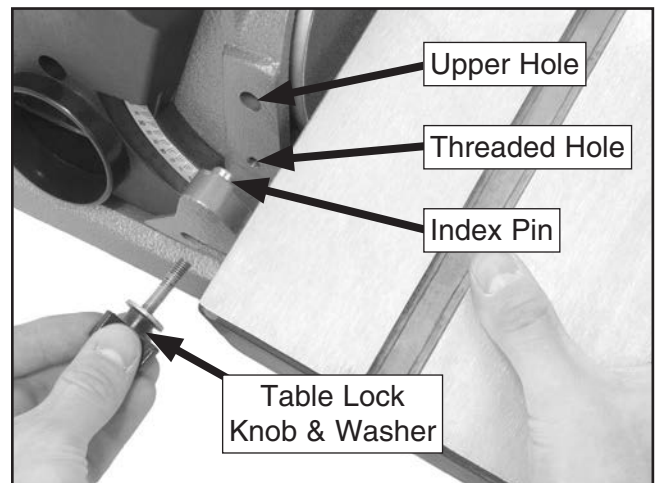

Figure 10. Installing work table.
5. Insert work table index pin into upper hole on sander base (see **Figure 10**).
6. Insert table lock knob with flat washer (see **Figure 10**) through slot in work table and into threaded hole in sander body.
7. Set work table at desired angle and tighten table lock knob (see **Figure 10**).